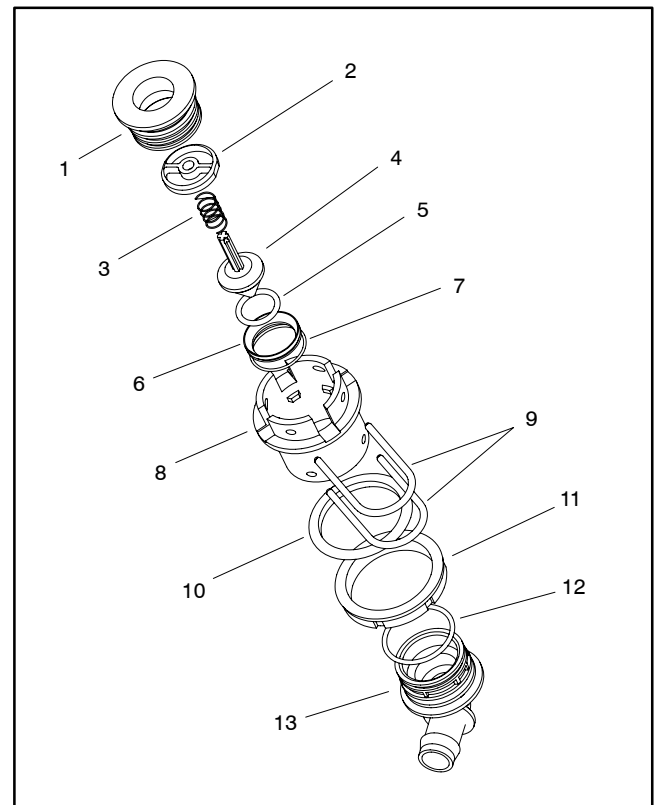

Figure 34
6. Disassemble drain assembly using Figure 34 as a guide.